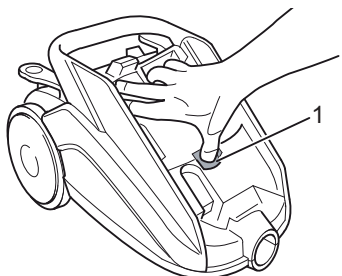

Fig. 27
3. Release the filter cover (Fig. 27/1) and remove it.